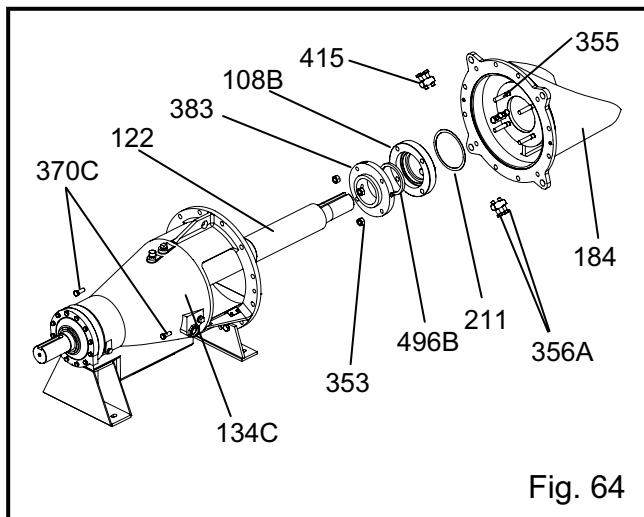

Fig. 64
16. The loose mechanical seal (383, 108) components and gaskets (211) are slid onto the shaft (122) first before the stuffing box cover (184) can be installed. If the seal includes a restrictor bushing (496B) an optional adapter (108B) will be included with the pump. On large pumps use a sling or hook and chain to securely support the weight of the stuffing box cover during installation. Mount the stuffing box cover on the bearing housing (134C) register. Secure the stuffing box cover (184) to the bearing housing (134C) using two bolts (370C). Be careful not to scuff or mar the pump shaft (122) during installation. Install the four adjusting lugs (415) and impeller adjusting bolts (356A). Use the upper adjusting screws (356A) closest to the bearing housing to center the stuffing box cover on the shaft. The seal manufacturers instructions should be followed to correctly install and align the mechanical seal. Lastly, install the seal gland nuts (353) and secure the seal to the stuffing box cover (184). Be sure all gland quench or flush tubing is connected. see. Fig. 64.